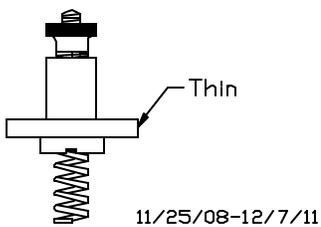

Figure 1
The very first **Magneto Contact Assembly** used on the very early T's was not the usual "Brass" post that is normally found on the 09-17 cars. This very first assembly while similar in concept had a short housing that was only 7/8" tall and made entirely of hard fibre. It had a short small diameter spring inside that rested on top of the magneto primary contact of the magneto coil ring. There was no slug in the end of the spring. This very first design was drawn on September 21, 1908 but was soon replaced on November 25, 1908 with the more familiar "Brass" style. This first "Brass" design featured a rather thin natural hard fibre ring (see Fig. 1) and the internal special tapered spring (made from phosphor bronze) was designed to fit tightly up in the brass sleeve while the other end simply sat on the primary magneto contact as did the earliest design. The internal brass sleeve was crimped in 2 places at the bottom in a groove placed there for that purpose. The assembly was held in place with (3) 10-32 x 3/8" Fillister head machine screws. No lock washers were used. A brass thumb nut with a diamond knurl pattern was used to fasten the magneto wire and a small 3/8" OD lock washer *was* used there.